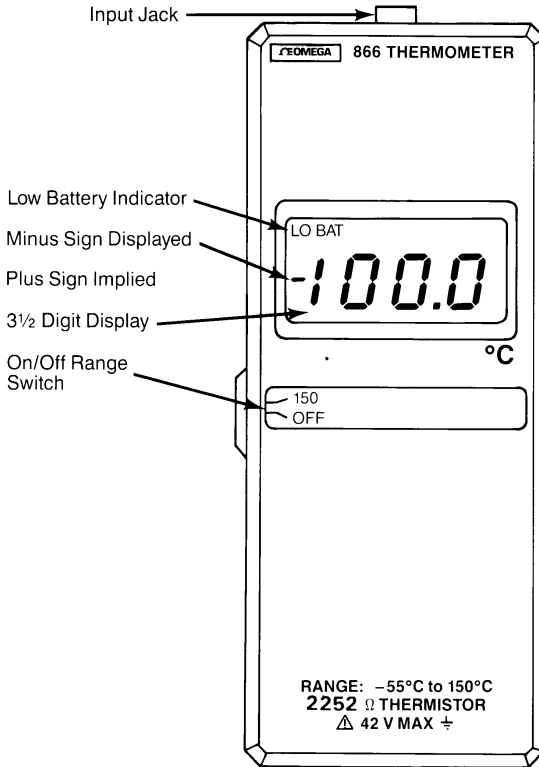

Figure 3-2 Model 866 Control Layout
3.2.2 Model 866 (See Figure 3-2)